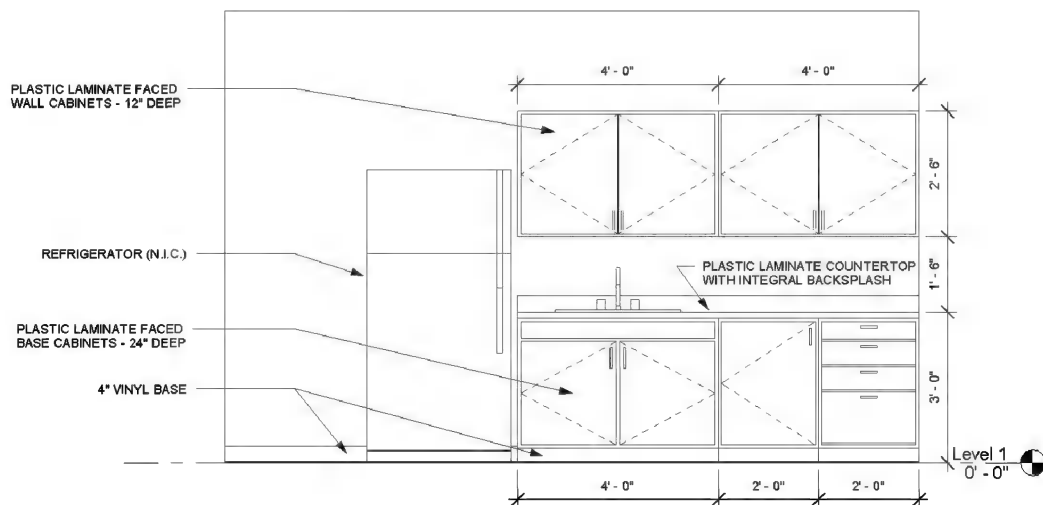

FIGURE 11-2.6 Interior elevation with annotations
13. Add the notes and dimensions per **Figure 11-2.6**.